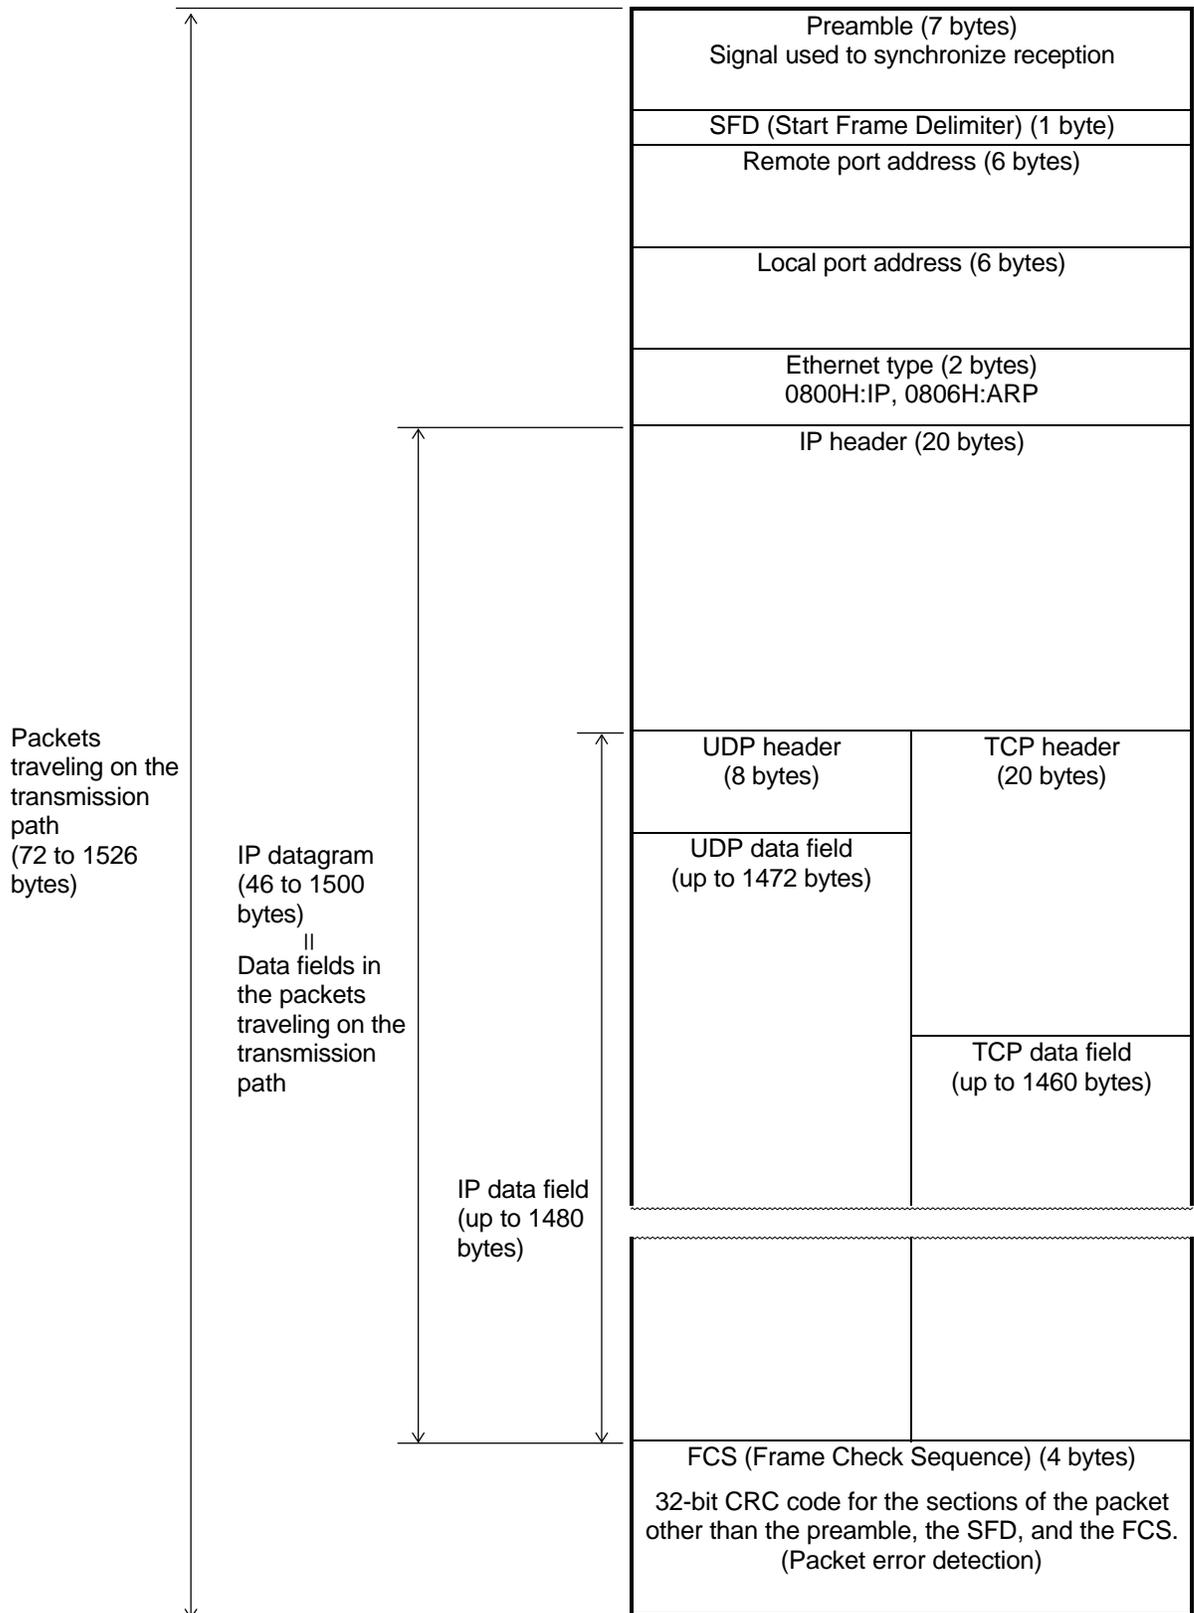

Figure 6.8 Packet Format/IP Datagram
- c. Transmitted data that exceeds 1472 bytes is divided (fragmented) into units of 1472 bytes. This is the limit of the length of packets (data units flowing on the network) transmitted over the network (10BASE-T). (See figure 6.8.)
- f. When the TCP socket interface is used, transmitted data is divided (fragmented) into units of a size determined when the connection between the two sockets was established. The upper limit of the fragment size is 1460 bytes. This is the limit of the length of packets (data units flowing on the network) transmitted over the network. (See figure 6.8.)